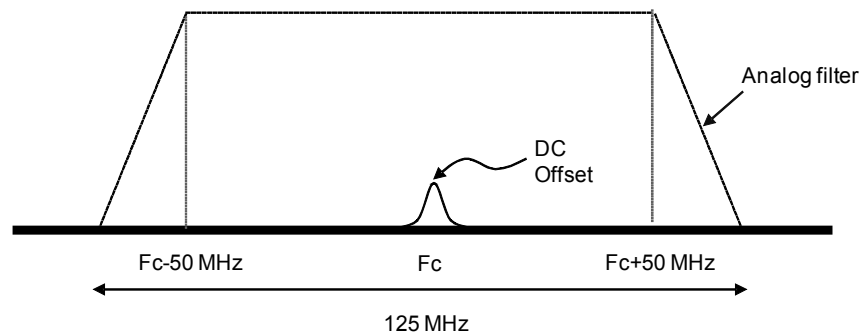

Figure 3: DC Offset with Amplitude Roll-Off at $\pm 50\text{MHz}$
The WSA5000's WB ADC sampling rate is 125 MSa/s, intermediate frequency (IF) is 0 and the entire IF bandwidth is 125MHz. The analog filter results in an amplitude roll-off at approximately $\pm 50\text{MHz}$ around the center frequency F_c , as illustrated in Figure 3.